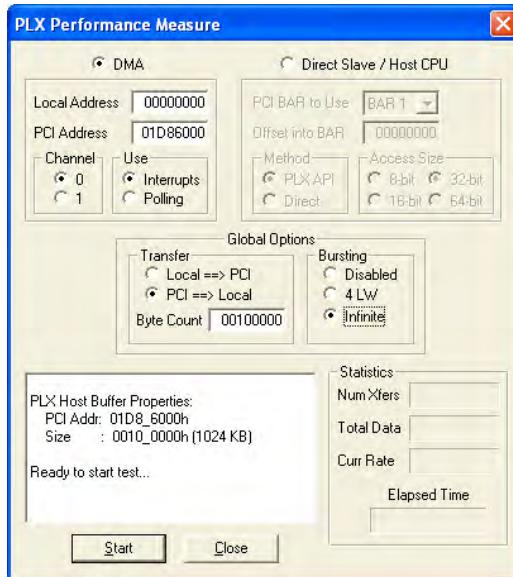

Figure 4. PLX Performance Measure Dialog Box – DMA Test Settings
- b. Click the  (Performance Measure) icon in the toolbar, to open the **PLX Performance Measure** dialog box (Figure 4).